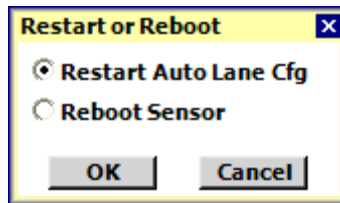

Figure 6.3 – Restart or Reboot Popup
2. Click OK on the Restart of Reboot popup window (see Figure 6.3).
After the Lanes and Stop Bar configuration is saved, click on the Step 2 tab to bring up the Zones & Channels view. This view allows you to place zones and configure detection channels (see Figure 6.3). Each SmartSensor Matrix unit supports up to eight zones and four channels. If unused, the eight zones are placed outside the sensor view and labeled Z1 through Z8.